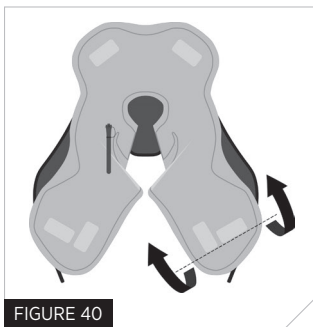

FIGURE 40
1. Place the deflated PFD on a flat surface with the oral tube facing up (see Deflating your PFD p. 11). Fold bottom corner of the lobe (inflator side) up towards the centre of the bladder along fold line 1 (Fig 40).